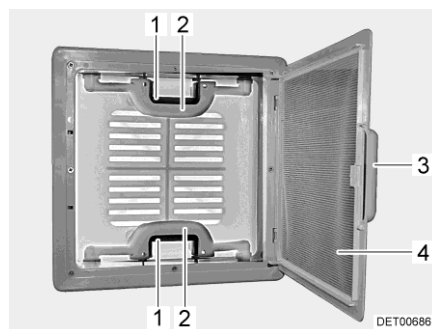

Fig. 20 Skylight with snap latch
- Pull on the handle (Fig. 20,3).
- Fold insect screen (Fig. 20,4) downward.
- Push the snap latch (Fig. 20,1) towards the inside of the skylight. At the same time use the handle (Fig. 20,2) to press the skylight upwards.
- Swing insect screen (Fig. 20,4) upwards until it latches in place.
- Using both handles (Fig. 20,2), pull down the skylight with force until the two snap latches (Fig. 20,1) lock into place.